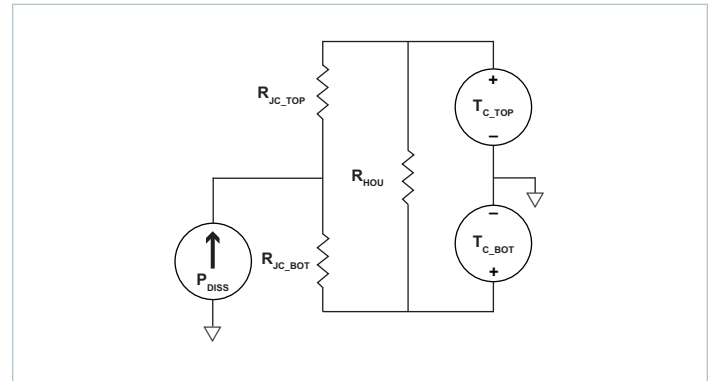
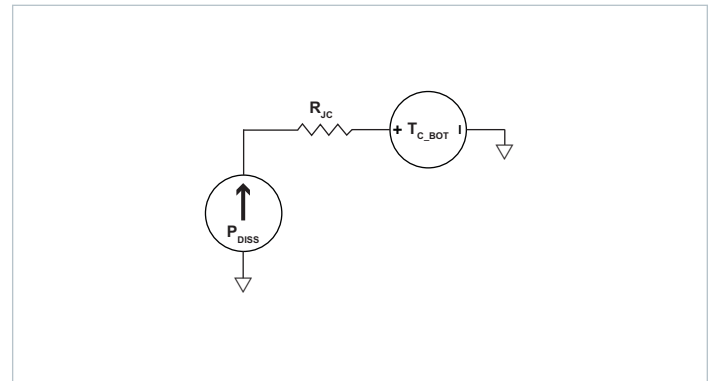

Figure 21 – Double sided cooling VIA thermal model
Figure 22 – Single-sided cooling VIA thermal model
to simplify the thermal solution into a roughly equivalent circuit where power dissipation is modeled as a current source, isothermal surface temperatures are represented as voltage sources and the thermal resistances are represented as resistors. Figure 21 shows the “thermal circuit” for the VIA module.
- Single side cooling: the model of Figure 21 can be simplified by calculating the parallel resistor network and using one simple thermal resistance number and the internal power dissipation curves; an example for bottom side cooling only is shown in Figure 22.